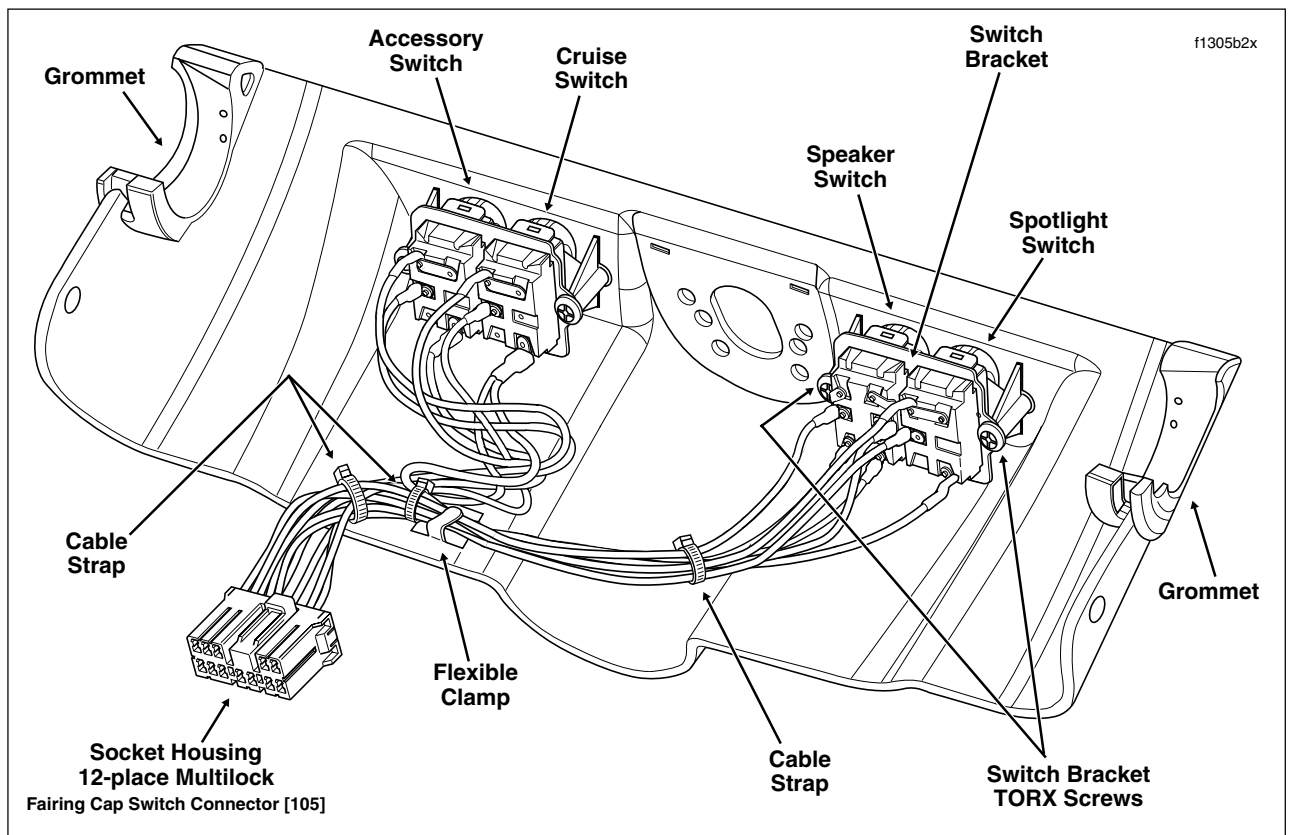

Figure 8-75. Fairing Cap (Inboard Side) - Ultra Model Shown
- Remove the fairing cap from the motorcycle. See Figure 8-75.
5. Install **new** cable straps to capture wire bundles and then secure switch wires to the fairing cap using the flexible clamp. Route the wires as shown in Figure 8-75.